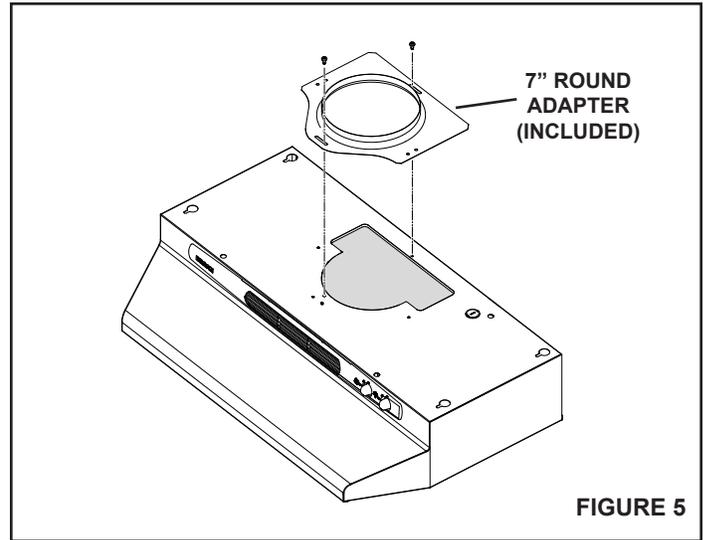

FIGURE 5
2. For 7" round discharge installation, refer to FIGURE 5. Secure 7" adapter (included) to top of hood using screws provided. Install 7" round damper (Model BP87 (97010792), purchased separately).